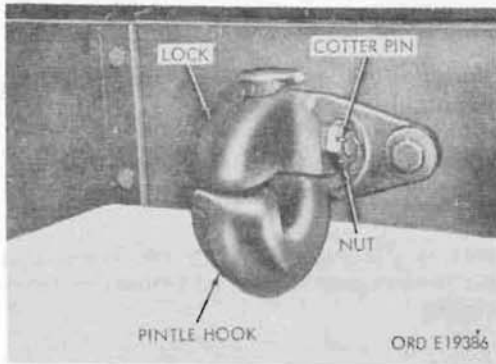

Figure 247. Pintle hook - front view
a. **Hook Removal.** Remove the cotter pin from the castellated nut. Remove the castellated nut and washer from the front side of the rear crossmember (fig. 247). Remove the pintle from the bracket.